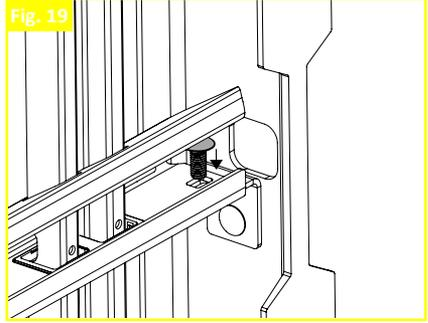

Fig. 20
6. Using the Tri-Groove Socket, fasten the 3/8" - 16 Thread Tri-Groove Nut onto the 3/8" - 16 x 1" Square-Neck Carriage Bolt. As shown in Fig. 20 & 21.